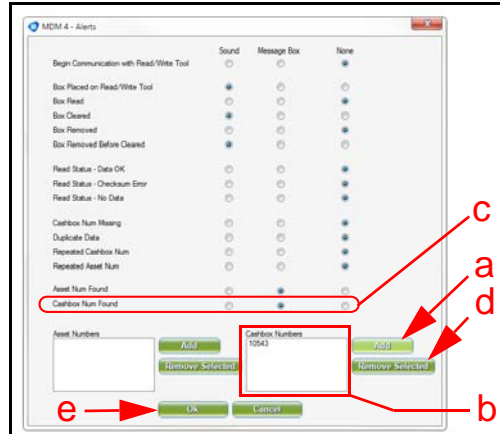

Figure 25 Setting Cash Box Alert Screen
1. On the MDM4 Main Screen, click on the 'Edit' pull-down Menu, then select 'Preferences' > 'Alerts' (refer to Figure 21a on page 16). The 'MDM4 Alerts' Screen shown in Figure 25 will appear.
2. Click on the 'Add'  Screen Button (Figure 25 a). When the 'Cashbox Number Search' Dialog Box appears, enter the desired Cash Box Number into the Cashbox Number field (Figure 26 a), then click the 'OK' Screen Button (Figure 26 b) to return to the MDM4 Alerts Screen.
**NOTE:** The type of Alert received when a specified Cash Box is placed on a Read-Write Tool depends on the Alert preference type selected for 'Cash Box Num Found'. Click to select the desired Alert type Radio Button (Figure 25 c).
4. Once a Cash Box has been found (and the desired alert sounded or displayed), it may be desirable to remove it from the list. To remove a Cash Box from the list of Cash Box Numbers, click on the desired Cashbox Number (Figure 25 b), and then click on the 'Remove Selected'  Screen Button (Figure 25 d).
5. When the process of adding or removing numbers from the list is complete, click on the 'OK'  Screen Button (Figure 25 e) to save the settings and return to the MDM4 Main Screen.